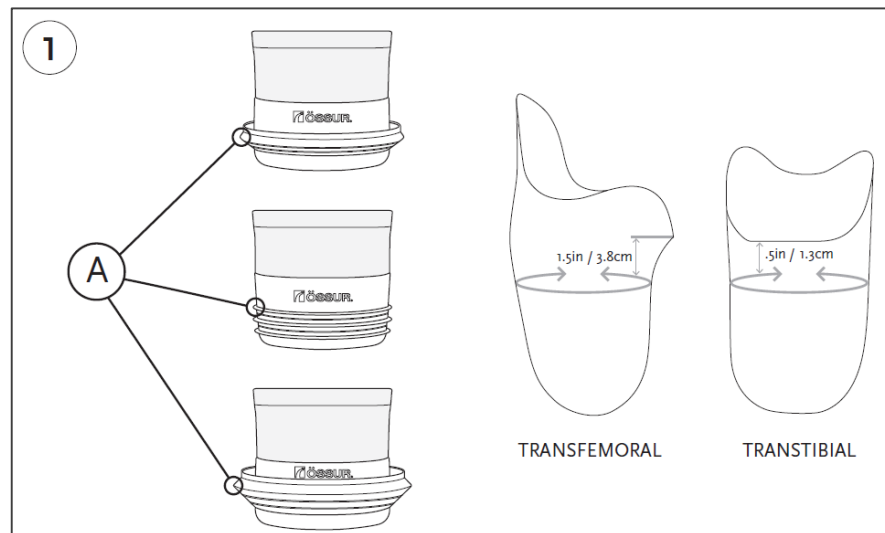

Figure 1
1. Place Seal-Ring from the Iceross Seal-In X Kit at appropriate location on liner, considering the recommended distance between lowest socket edge and uppermost seal lip (Figure 1).